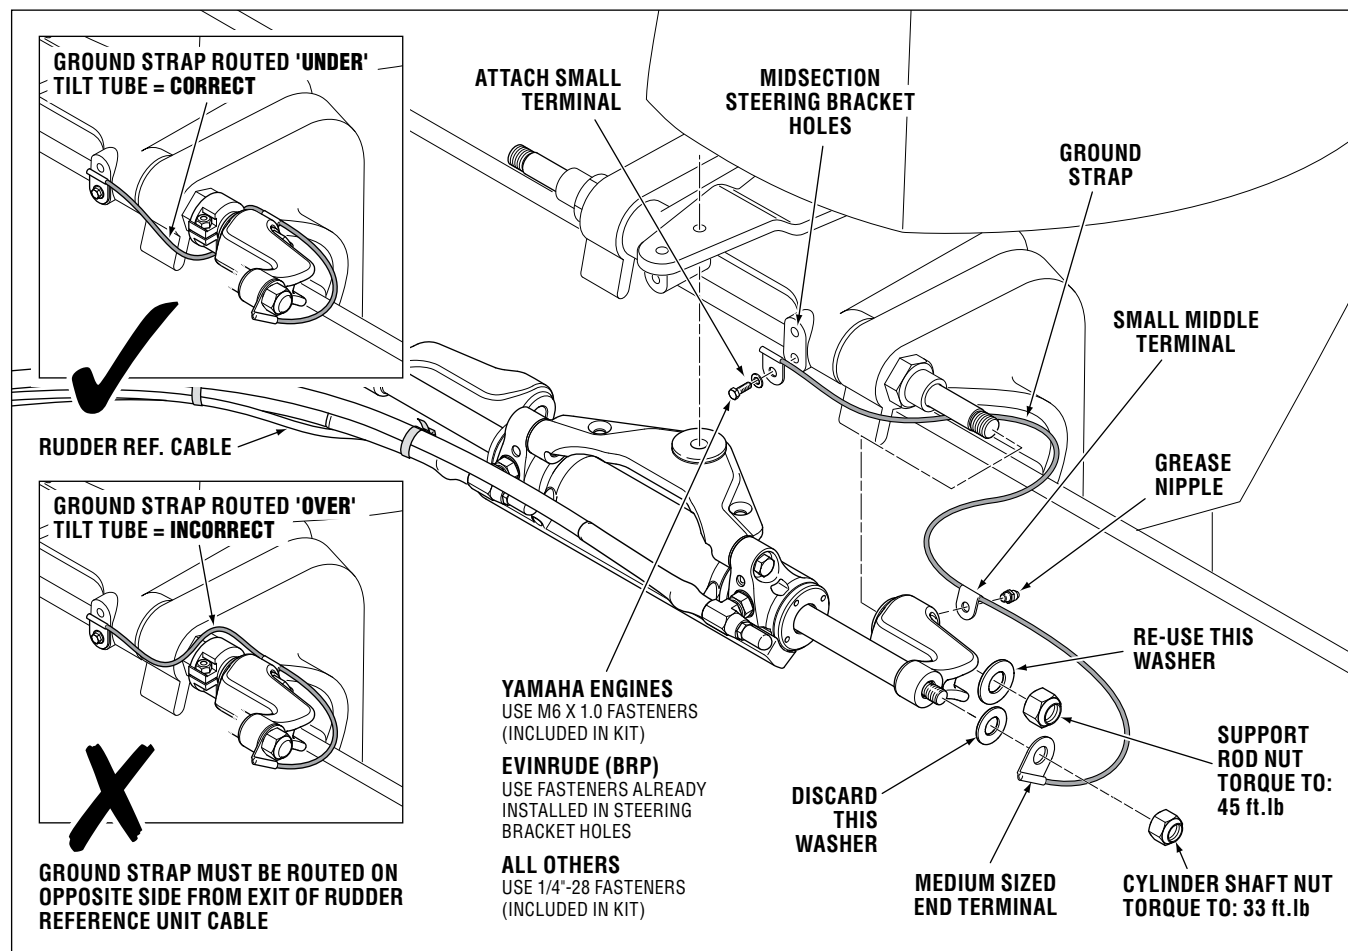

Figure 5-18.
- Install ground strap to cylinder on *opposite* side from Rudder Reference Unit cable exit as per Figure 5-18.